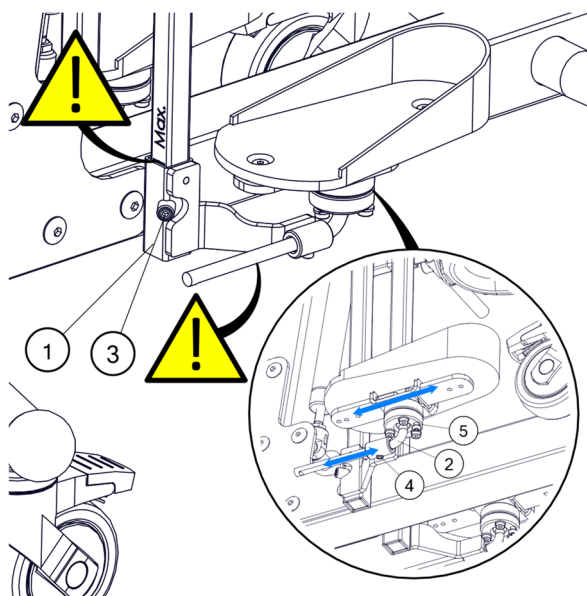

Fig. 13
Foot platforms (Fig. 13) in the stander provide a complete regulation of the patient's feet. In order to adjust the height of the platform, loosen a screw (3) and then shift the corpus (1) of the foot platform along the rail. When regulating the position of the foot platform it is crucial to pay special attention not to extend the foot platform past the MAX mark. In order to block the position of the platform, tighten the screw (3) and hence block the possibility of the foot platform to move. Regulation of the depth of the foot platform is possible after loosening the screw (4), which enables shifting the arm (2) of the foot platform. Retighten the screw (4) to block the location of the foot platform. When adjusting the foot platform, make sure that the screw (4) stays in the groove guiding the arm of the platform. This guarantees the safe scope of the platform's location.